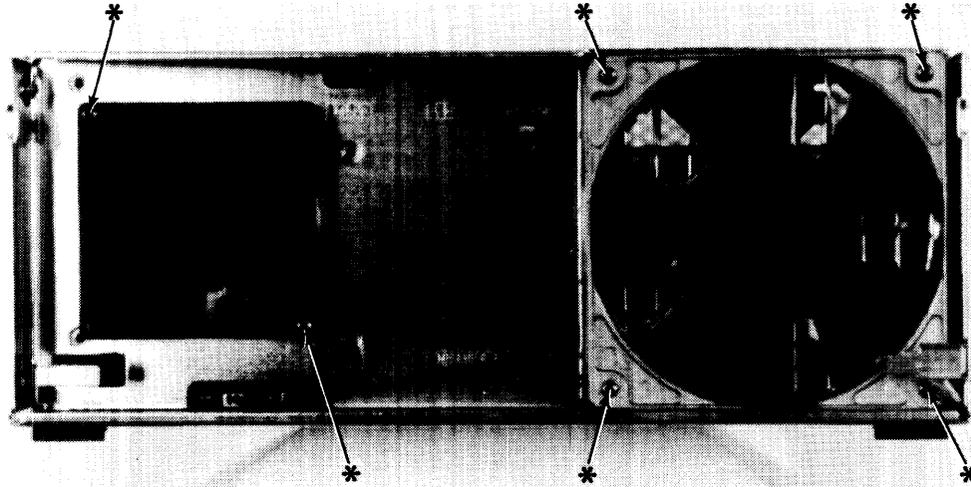

Figure 2-12. Fan Mounting Screws
3. Remove one of mounting screws from the fan to be replaced. Refer to Figure 2-12.